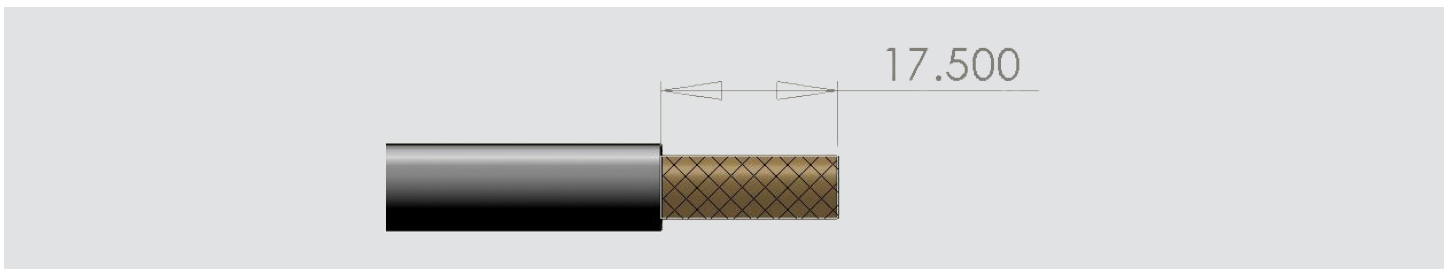

Figure 2
1. Strip the insulation by 17.5mm as shown in Figure 2